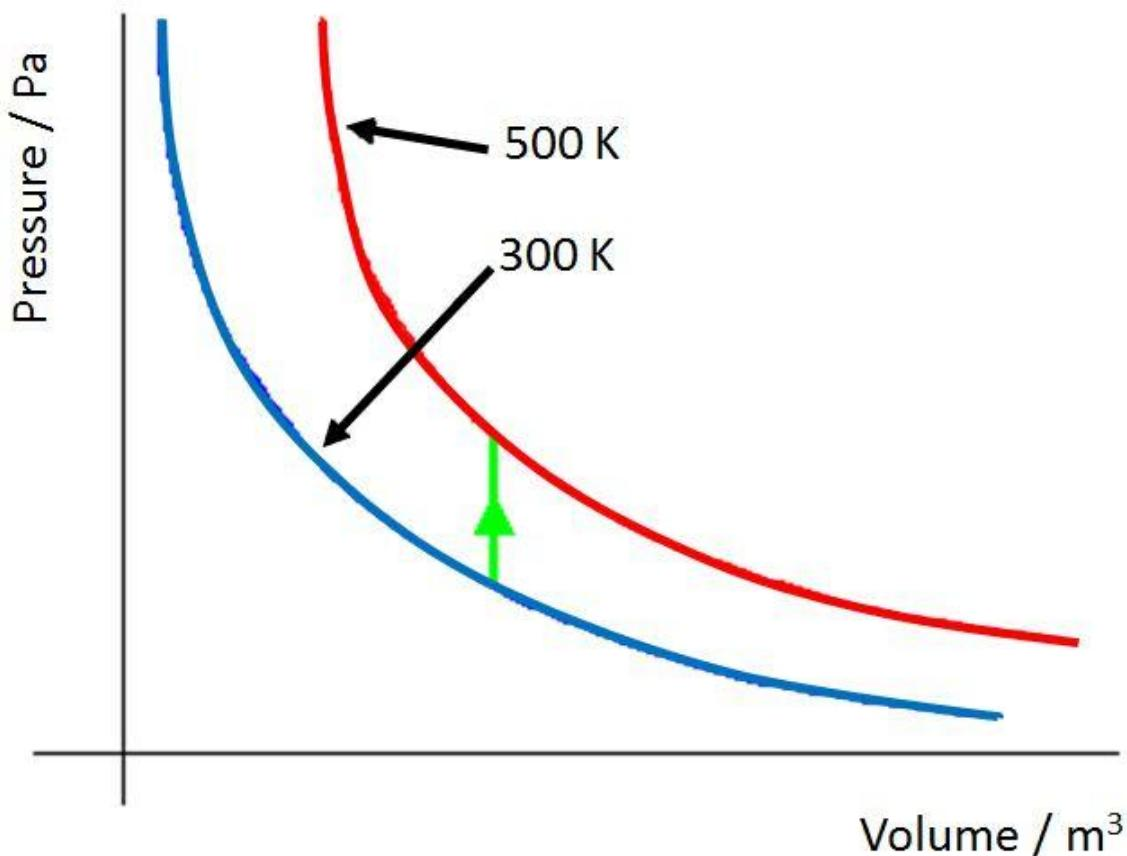

Figure 21 PV graph of isovolumetric processes
**Isovolumetric** processes occur at constant volume. We can show this on a graph that displays the isotherms as we have above (Figure 21).